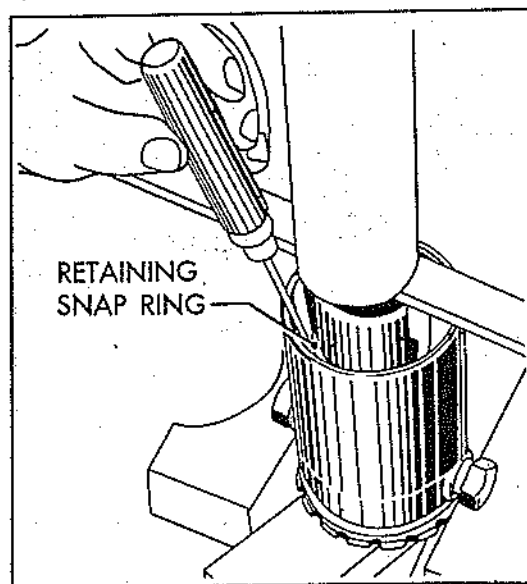

Figure 71.—Removing Retaining Snap Ring
(5) Remove the retaining snap ring as shown in Fig. 71.